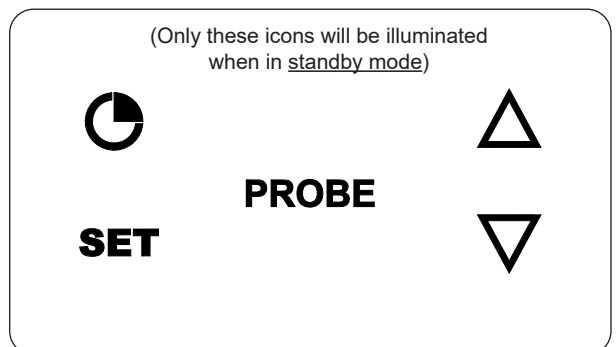

Fig. 28-4 Standby mode
**Press thermometer power switch to turn ON:** The digital controls will illuminate and the thermometer/thermostat will wait in “standby mode” until turned on for use. If the meat probe is plugged in, PROBE will also illuminate. See Fig. 28-4.